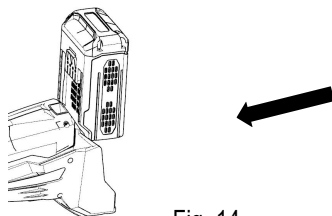

Fig .14
1. Insert the battery pack into the socket, until you hear a clear “click” sound (Fig. 14).